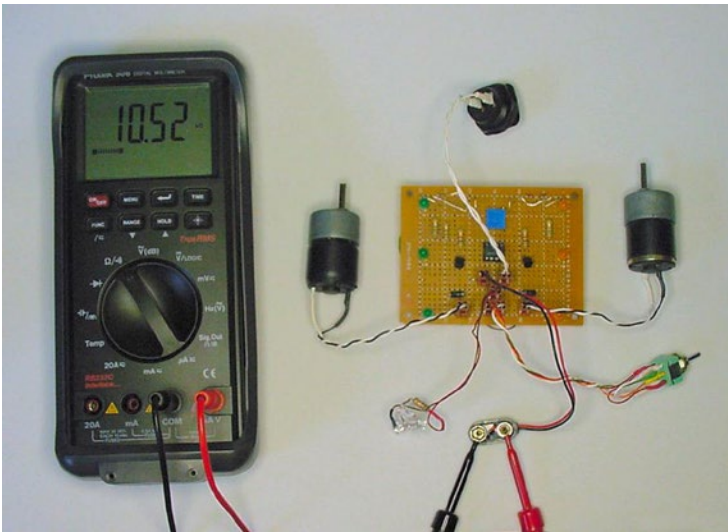

Figure 23-16. Testing resistance of circuit through 9 V battery snap connector
1. Attach all of the parts that have Molex connectors to the finished circuit board (see Figure 23-16). That means the motors, power switch, battery snap (without battery), line-following switch, and tube LEDs (if desired) should now be connected to the circuit board.